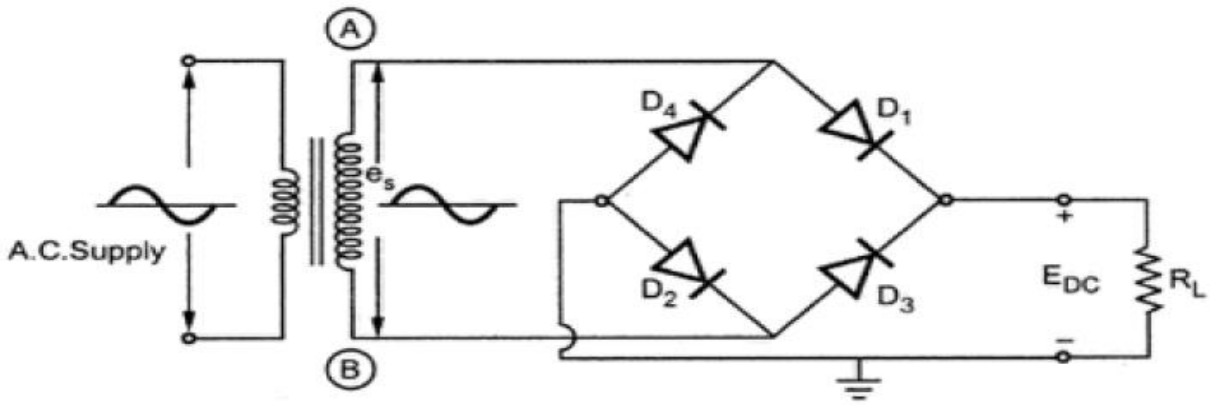

Fig. 2.5 Bridge Rectifier
- The bridge rectifier circuit is essentially a full wave rectifier circuit, using four diodes, forming the four arms of an electrical bridge and is shown in figure 2.5.